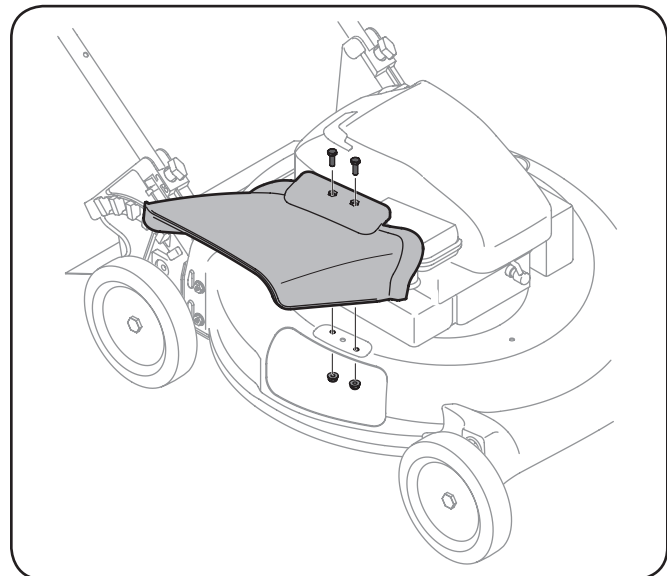

Figure 3-7
- Align the holes on the chute deflector with the corresponding holes on the deck surface. See Figure 3-7.